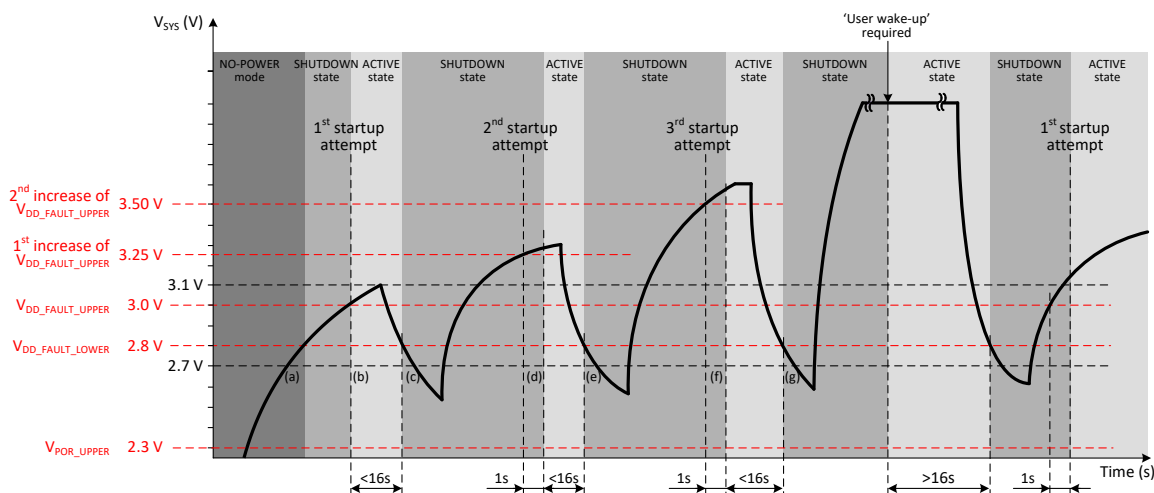

Figure 13: VDD_START Faults
The DA9063L `VDD_START` feature prevents endless looping of false-starts in a weakly-powered system. `VDD_START` limits the number of automatic restart attempts to three. With reference to Figure 13:
- Figure 13(a): the PMIC starts from NO-POWER mode.
- Figure 13(b): First startup attempt. The PMIC transitions to the ACTIVE state when V_{SYS} rises above $V_{DD_FAULT_UPPER}$.
- Figure 13(c): If, during the first startup attempt, the V_{SYS} supply drops below $V_{DD_FAULT_LOWER}$ for more than 100 ms, the PMIC shuts down to the SHUTDOWN state. $V_{DD_FAULT_UPPER}$ is increased automatically by 250 mV. However, the increased $V_{DD_FAULT_UPPER}$ is limited to a maximum of 3.70 V.
- Figure 13(d): Second startup attempt. If V_{SYS} rises above the new $V_{DD_FAULT_UPPER}$ threshold, then the PMIC will power-up to the ACTIVE state.
- Figure 13(e): If, during the second startup attempt, the V_{SYS} supply drops below $V_{DD_FAULT_LOWER}$ for more than 100 ms, the PMIC shuts down to the SHUTDOWN state. $V_{DD_FAULT_UPPER}$ is increased automatically by a further 250 mV (500 mV above its original setting). However, the increased $V_{DD_FAULT_UPPER}$ is limited to a maximum of 3.70 V.
- Figure 13(f): Third startup attempt. If V_{SYS} rises above the new $V_{DD_FAULT_UPPER}$ threshold, then the PMIC will power-up to the ACTIVE state.
- Figure 13(g): If, during the third startup attempt, the V_{SYS} supply drops below $V_{DD_FAULT_LOWER}$ for more than 100 ms, the PMIC shuts down. From then on, AUTO_BOOT and wake-up from non-user events are temporarily disabled. 'User events' are defined in Table 30.